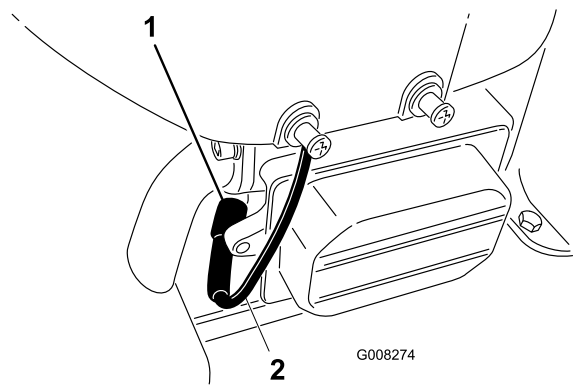

Figure 25
6. Disconnect the wire from the spark plug (Figure 25).
8. Remove the spark plug and the metal washer (Figure 25).
3. Connect the wire to the spark plug (Figure 25).